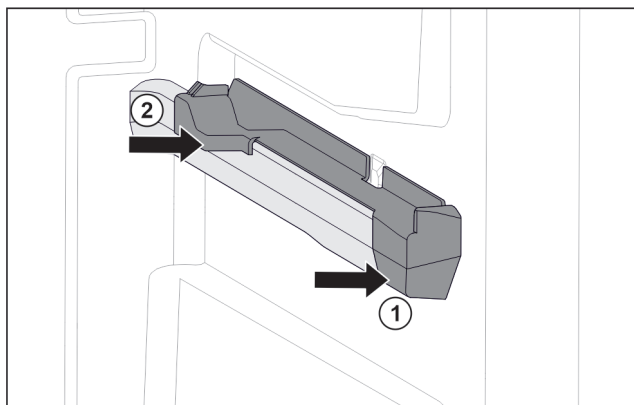

Fig. 119 Attachment on the right molded rib
- Position attachment on molded rib at the front. *Fig. 119 (1)*
- Press on attachment at the back. *Fig. 119 (2)*